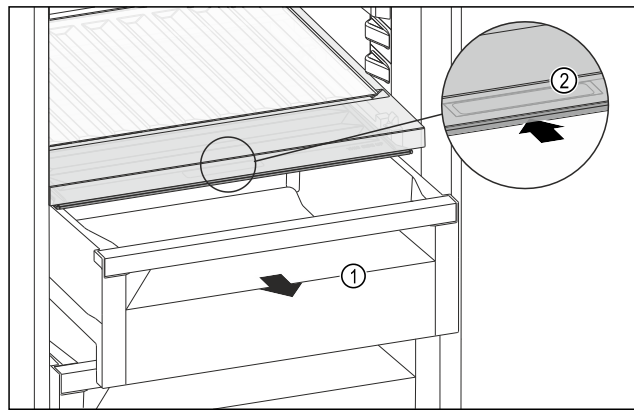

Fig. 163
- ▶ Pull out the drawer Fig. 163 (1).
- ▶ Grasp the recessed grip Fig. 163 (2) on the compartment lid and push the compartment lid backwards at the same time.